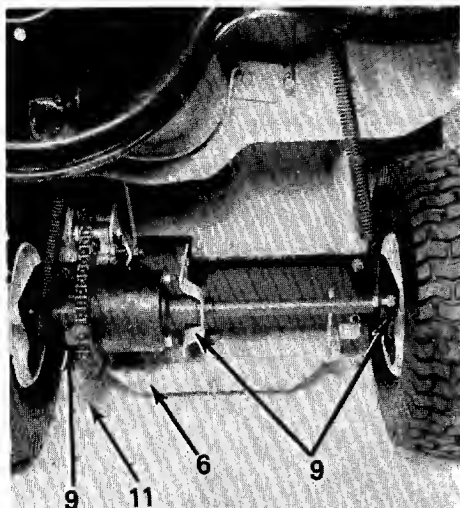

Figure 11.
6. **Differential.** Lubricated at the factory with 2 ounces of high temperature grease (450°F.) The grease should only be checked or replaced if the differential is disassembled for repair. (See figure 11.)
9. **Rear Axle Bearings (3).** Requires no lubrication. (See figure 11.)
11. **Chain.** Remove and clean with kerosene. Lubricate with an oil soaked rag. (See figure 11.)